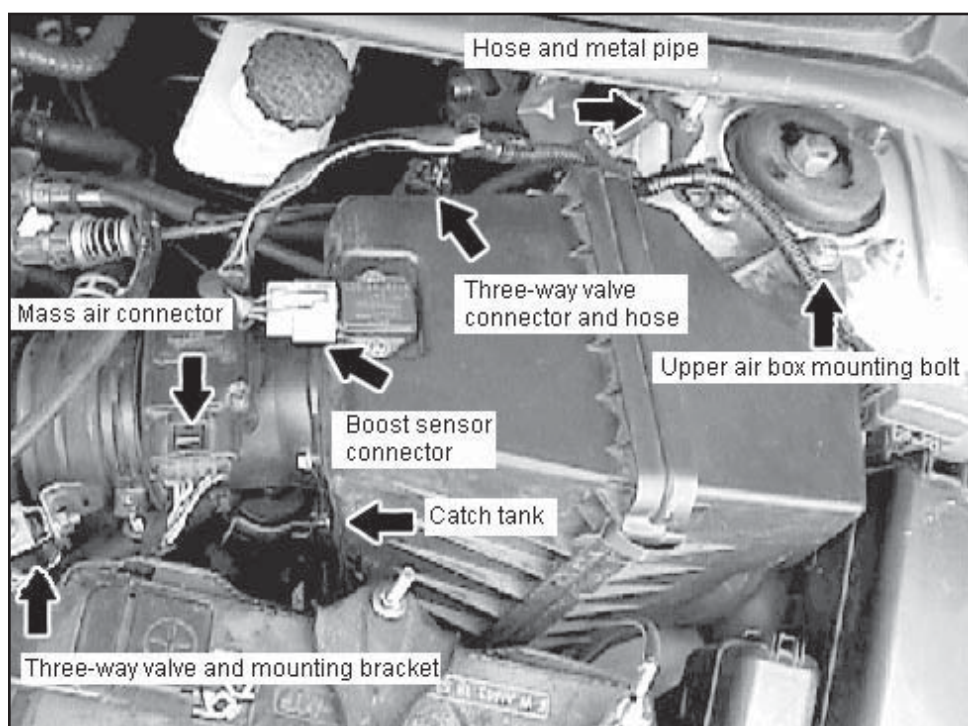

Fig. 1
1. Carefully disconnect the electrical connectors for the boost sensor and the three-way valve that are mounted to the airbox lid. (Fig. 1)
5. Carefully disconnect the hose that comes from the catch tank mounted on the airbox lid to the canister where it connects to the metal pipe attached to the drivers side strut tower bolt. (Fig. 1)
6. Carefully remove the three-way valve mounting bracket that is on the air intake tube and carefully disconnect the upper hose from the valve. (Fig. 1)
7. Carefully disconnect the electrical connector for the mass air sensor. (Fig. 1)
9. Remove the upper airbox mounting bolt and carefully lift the airbox assembly out of the vehicle. (Fig. 1)